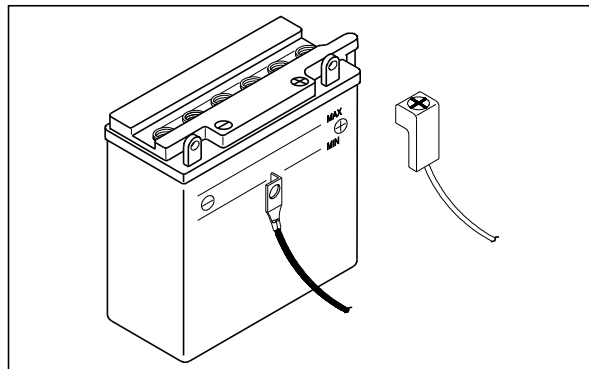

Fig. 5.5
- Apply petroleum jelly on the terminals after completion of connection and cover the positive terminal with the boot. (Fig. 5.5)